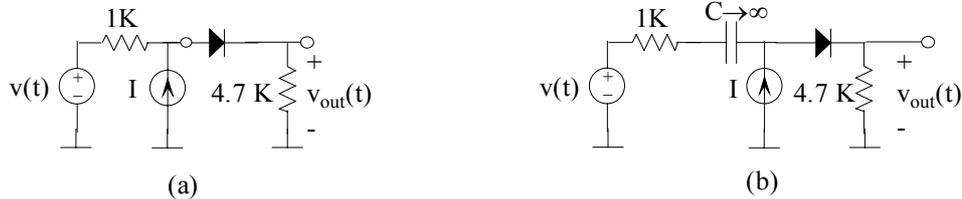

Figure 6.20 Circuit for (a) problem 4 and (b) problem 5
4. $v(t)$ is $0.5 \cos(\omega t)$ V in Figure 6.20(a). Assume that the diode can be modeled by the piecewise linear model of Figure 2.16(a), with $V_o = 0.6$ V. What is $v_{out}(t)$ if
5. Repeat problem 4 for the circuit given in Figure 6.20(b).